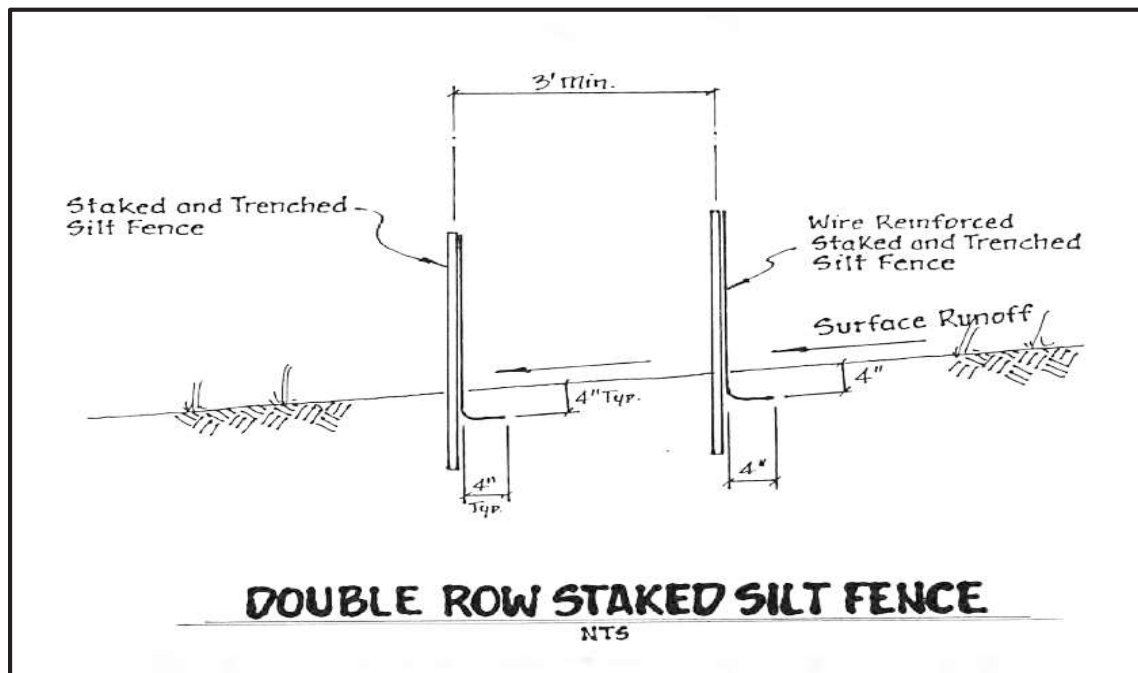

Figure 3.4c. Double row staked silt fence
10. *The most effective application consists of a double row of silt fences spaced a minimum of 3 feet apart, so that if the first row collapses it will not fall on the second row. Wire or synthetic mesh may be used to reinforce the first row (see **Figure 3.4c**).*